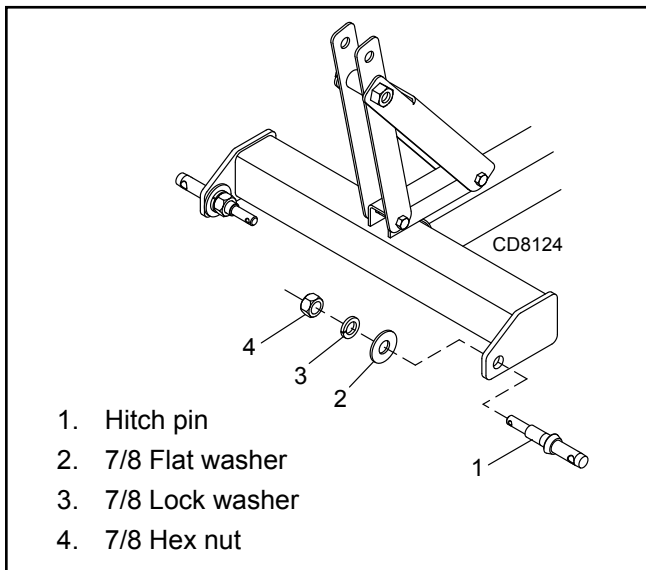

Figure 3. Hitch Pin Kit (Optional)
2. Place hitch pin (1) through rear blade assembly.
3. Secure with flat washer (2), lock washer (3) and hex nut (4).
4. Repeat for opposite side. See Figure 3.